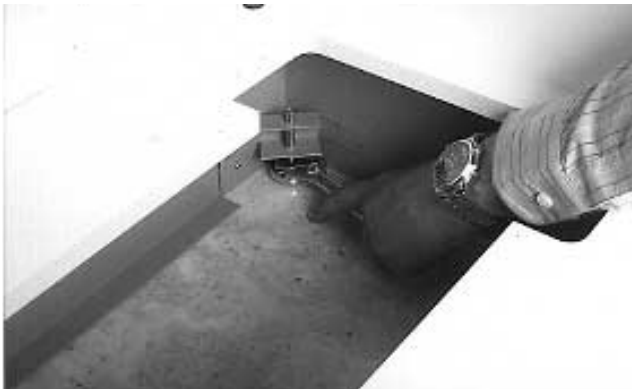

FIGURE 3
5. Place a bubble level on the wash station counter-top, then level the module side-to-side and front-to-back using the leveling feet (see *Figure 3*).